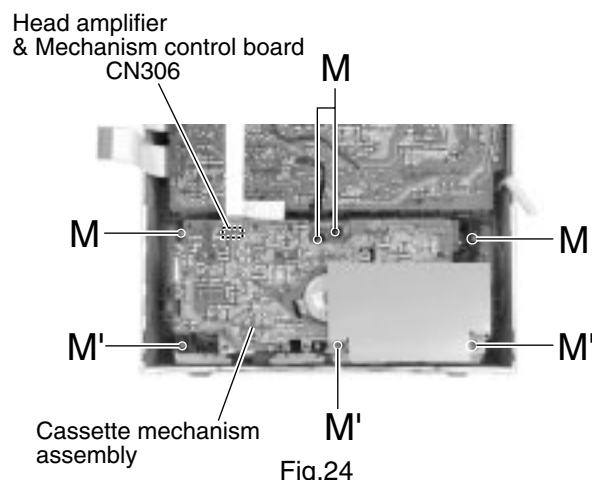

Fig.24
■ Removing the cassette mechanism assembly (See Fig.24)